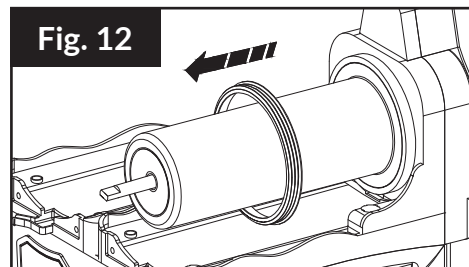

Fig. 12
5. Gently pull on the Bowl Gasket to remove. (Fig. 12)